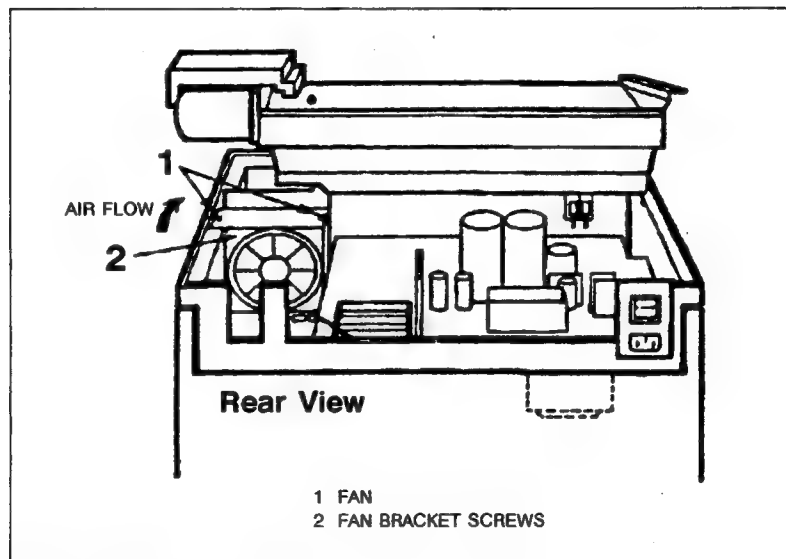

Figure 6-21. Upper Fan (Rear View of Printer)
- c. Remove the two screws from the fan bracket and remove the bracket (see Figure 6-21).